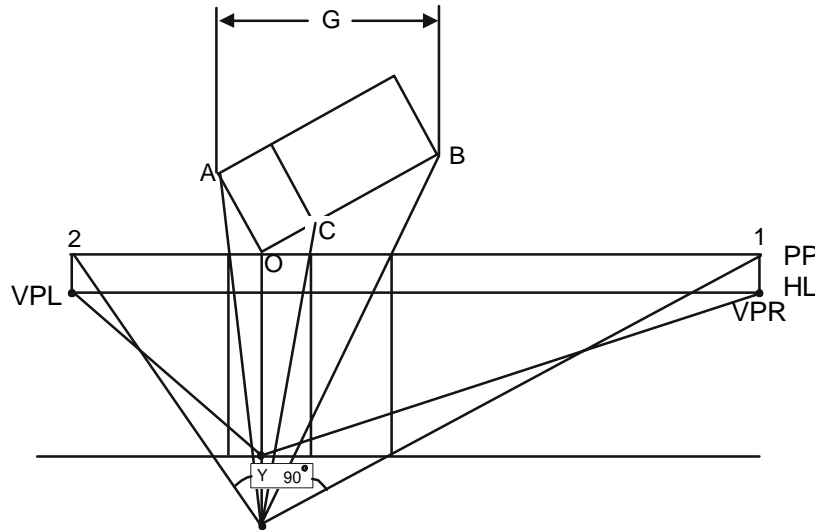

Figure C-8. Plane view lines drawn in two-point perspective.
NOTE: See Figure C-8 for steps (3) through (11).